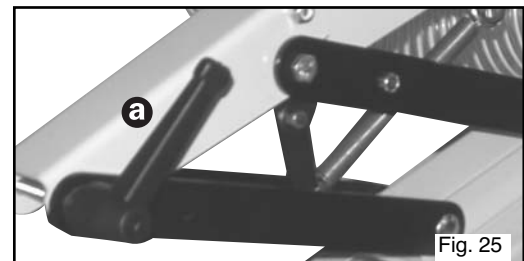

Fig. 25
2. The hood may be locked in any position by tightening the hood lock handle **a** located on the right side of the hood. (Fig. 25)